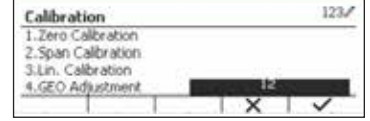

Figure 22
3. Press the softkey corresponding to the ✓ icon to edit GEO value. Press the On/CLR button and enter desired value using keypad. After editing, press the softkey corresponding to the User icon to exit menu. (See Figure 22)